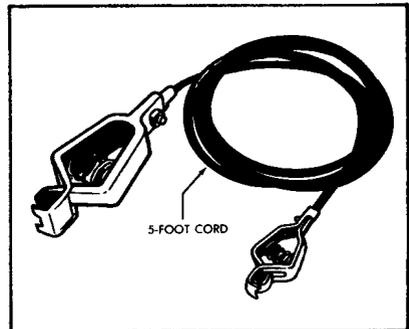

FIGURE 3. B Temporary Bond
a. Make a temporary bond by attaching the small clip of the B Temporary Bond (Figure 3) to the cable suspension strand or the bare power vertical ground wire so as not to be in the way of work operations. **Do this first.** Then attach the larger clip of the bond wire to the street light fixture. **Do not bond** to the support bracket of urban or rural wire or the suspension strand of isolated cable.